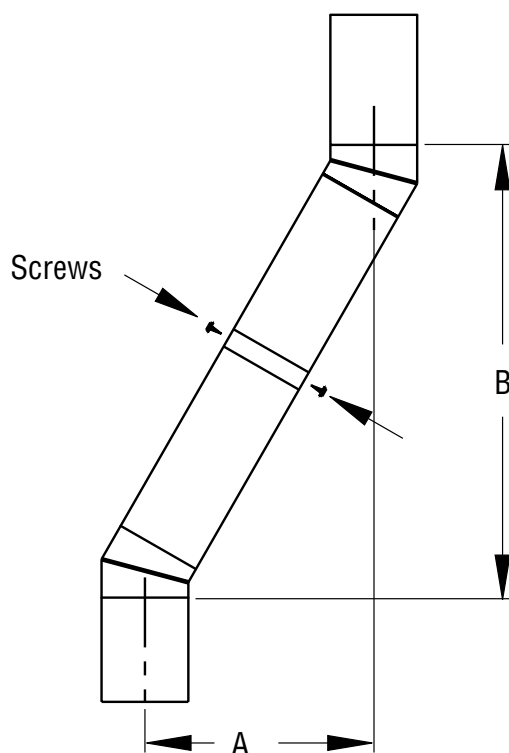

Figure 10 - Elbow Offset
Continue to assemble chimney sections as outlined above, making sure that both the inner and outer pipe sections are locked together. When installing double wall snap-lock chimney together, it is important to assure the joint between the chimney sections is locked. Check by pulling chimney upward after locking. The chimney will not come apart if properly locked. It is not necessary to add screws to keep the chimney together (*exception, see Figure 10, Page 10*).
1. To achieve desired offset, you may install combinations of 12", 18", 24", 36" and 48" length of double wall pipe (see offset chart and **Figure 10**).
4. All pipe connections between the offset and return must be secured with two screws on the outer pipe only (see Figure 10). Do not penetrate the inner stainless.